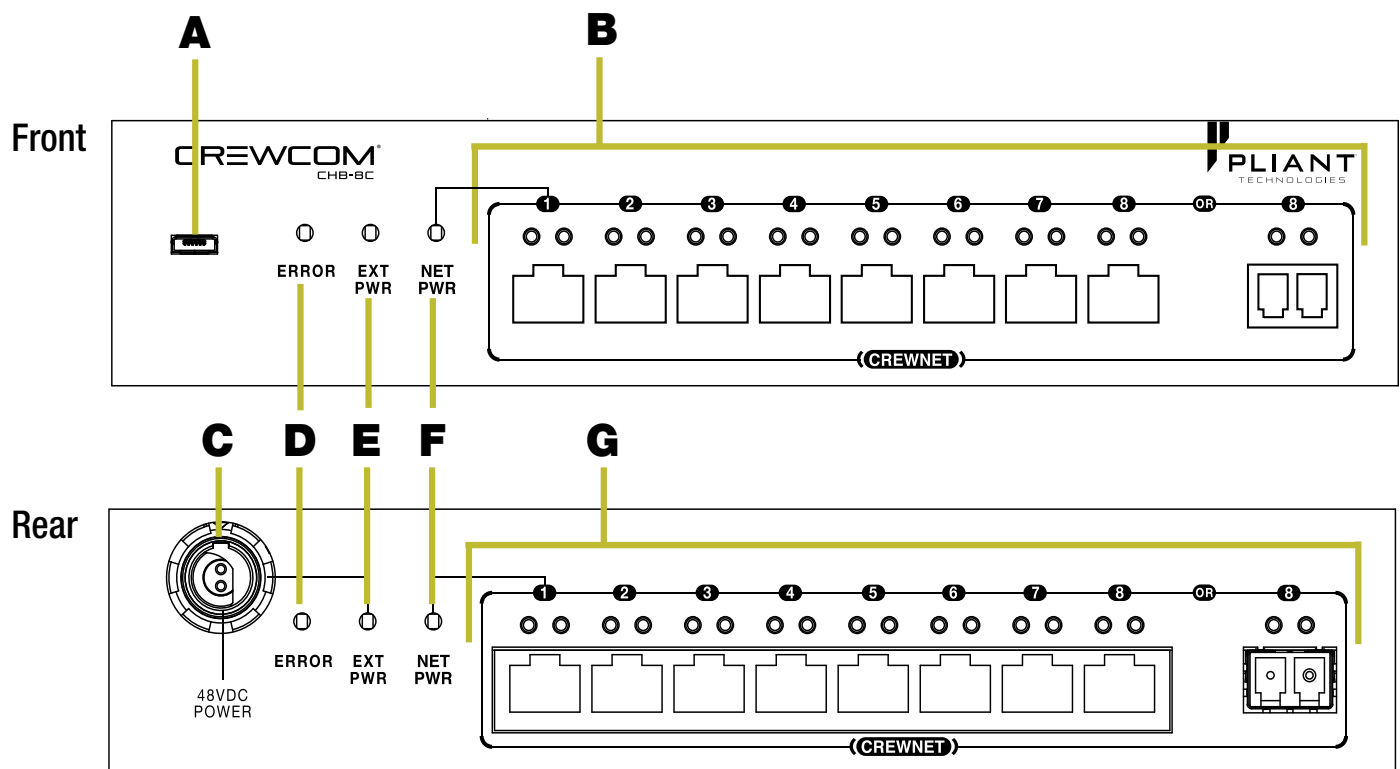

Figure 1: Copper Hub Front and Rear View
**Note:** The front and rear Copper Hub labels and LEDs are identical and display identical alerts. This allows for both front and/or rear face mounting. See Figure 1: